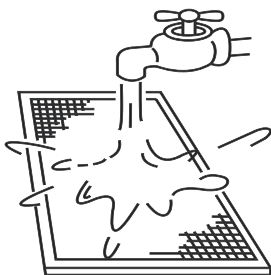

Fig.6-3
- b.The air-in side should face down when using clean water. (Refer to Fig.6-3)